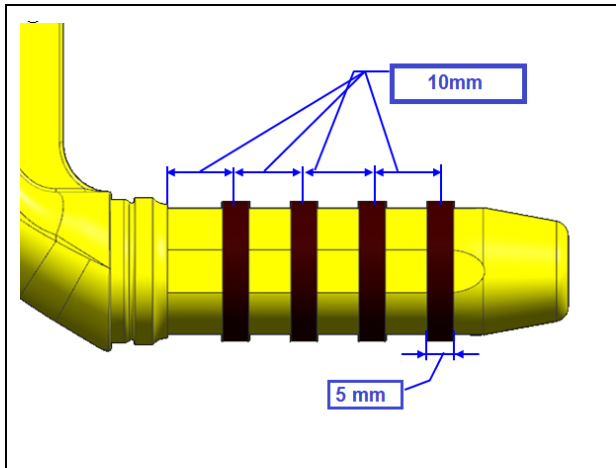

Figure 16
14. Apply Loctite 4211 adhesive in approximately 5mm beads placed about 10mm apart on the grip area of the cab unlock marker (See Figures 16 and 17).
***IMPORTANT: Make sure to insert the cab unlock marker into the tilt cab locking lever grip and adjust the position within two (2) minutes and then adjust the position within two (2) minutes. The adhesive starts to cure immediately and will be fully set within four (4) minutes.***